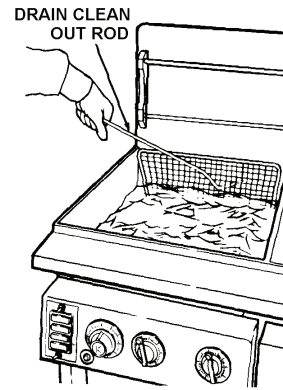

FIGURE 4. REMOVE SCREEN OVER TUBES/ELEMENTS
2. Remove screen from over tubes/element with tongs or a Drain Clean Out Rod. Refer to Figure 4.